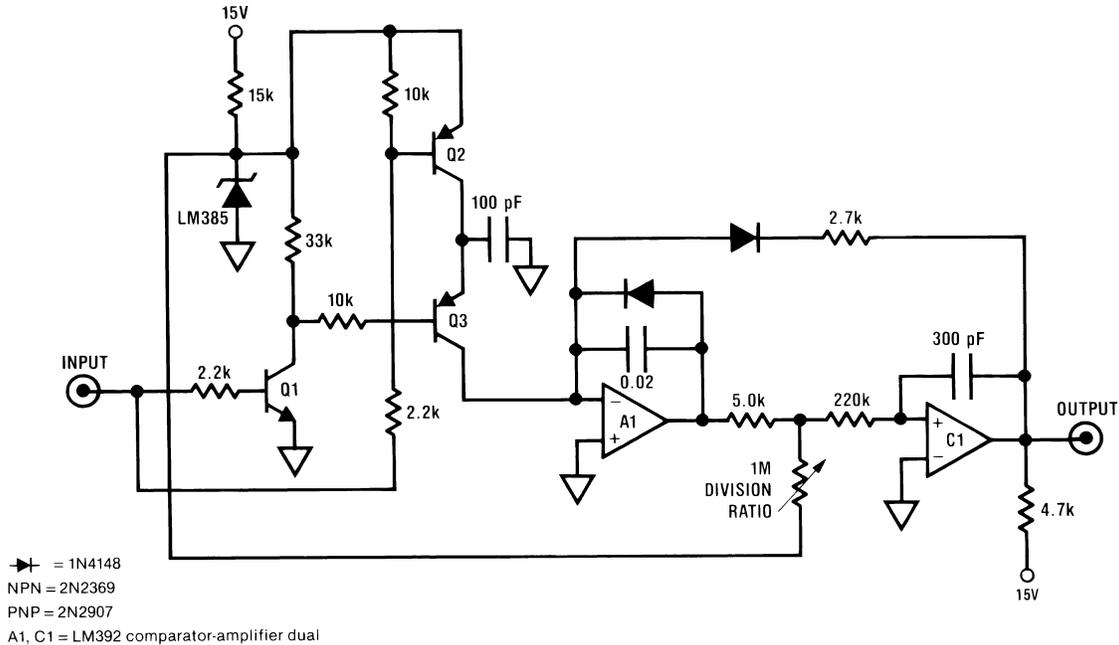

Figure 5.
In Figure 5 the circuit allows a digital pulse input to be divided by any number from 1 to 100 with control provided by a single knob. This function is ideal for bench type work where the rapid set-up and flexibility of the division ratio is highly desirable. When the circuit input is low, Q1 and Q3 are off and Q2 is on. This causes the 100 pF capacitor to accumulate a quantity of charge (Q) equal to